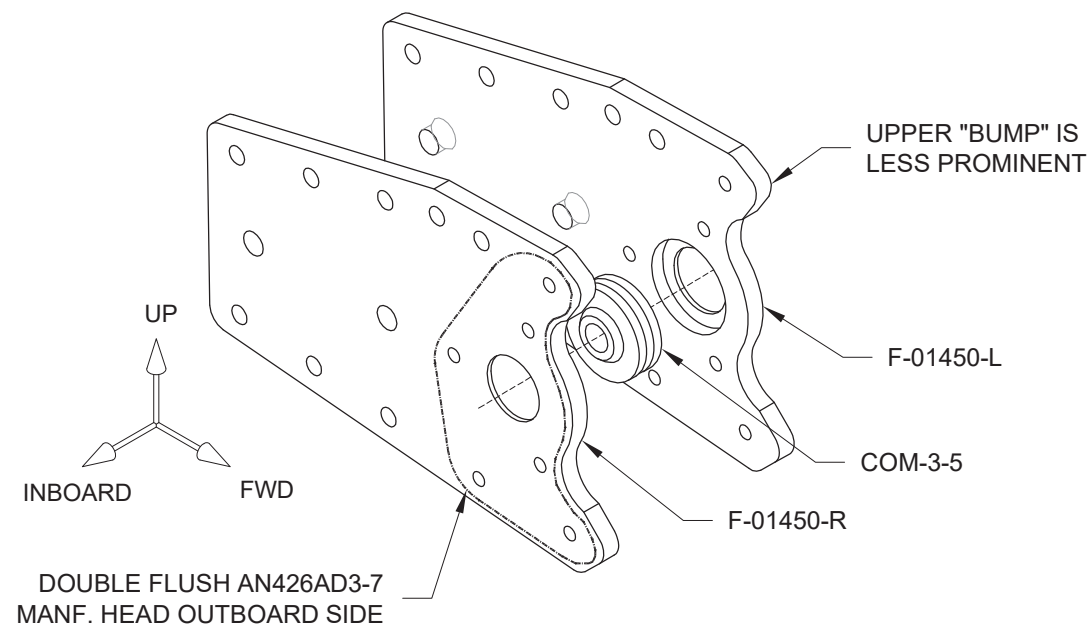

FIGURE 4: BEARING BRACKET ASSEMBLY LEFT ASSEMBLY SHOWN
Step 10: Double Flush Rivet the Bearing Bracket Assemblies together as shown in Figure 4. See Section 5.8 for more information on double flush riveting.